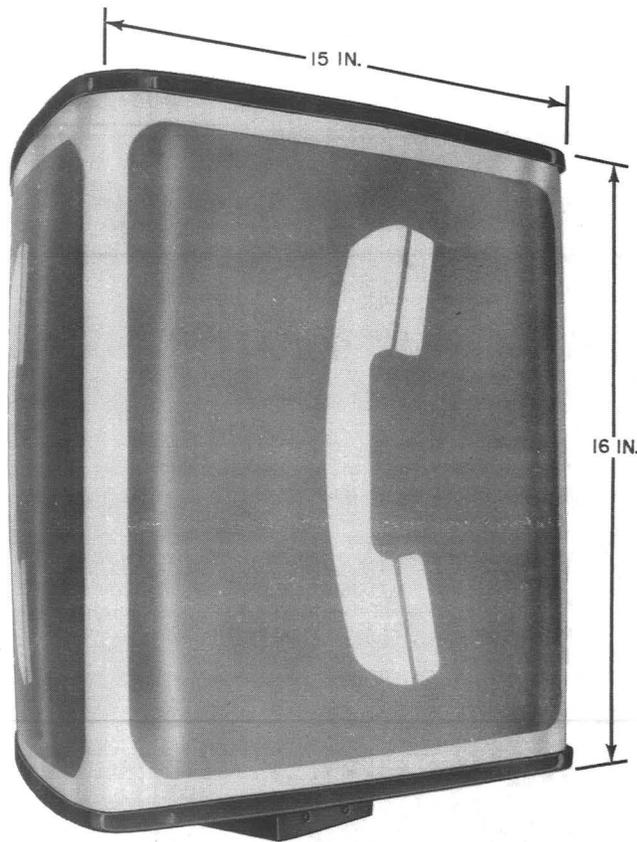
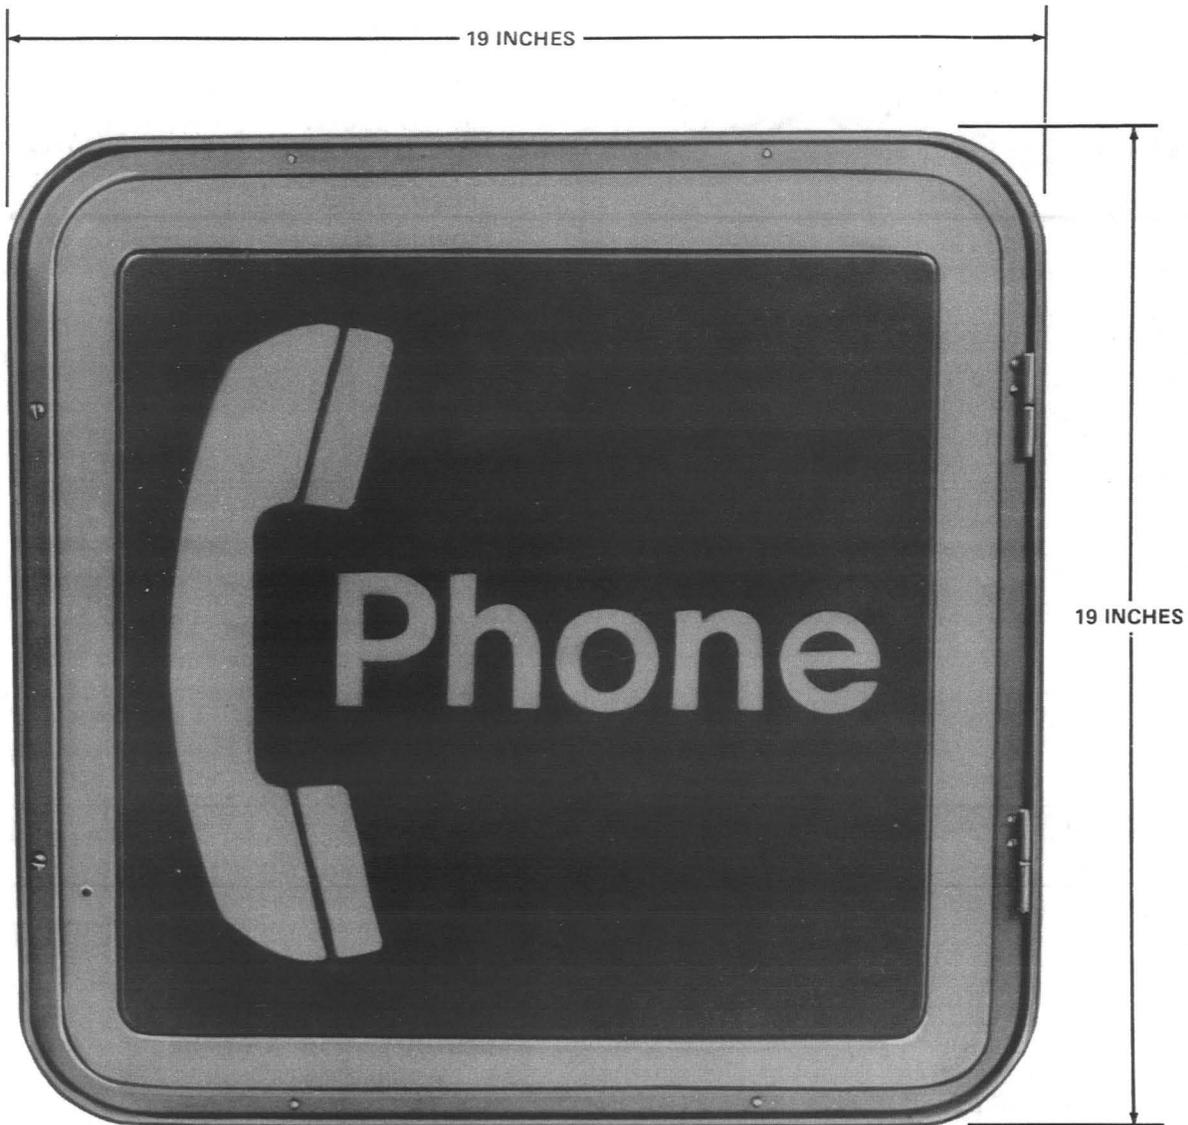

Fig. 10—KS-20031 Sign
Fig. 11—KS-20135, List 4 or List 5 Sign
2.13 The KS-22677, List 10 mast will accept a KS-20031, List 1 illuminated sign (Fig. 10) or a KS-20135, List 4 or List 5 illuminated sign (Fig. 11). The KS-22677, List 20 mast extension has no provisions for a sign.
- (2) Install the mast on the corral rail and secure it with the six 5/16-18 by 3/4 hex head screws and six 5/16-inch flat washers removed in Step (1).
3.18 The KS-22677, List 10 mast will accept a KS-20031, List 1 sign (Fig. 10) on top or a KS-20135, List 4 or List 5 sign (Fig. 11) on the side. The KS-22677, List 20 mast extension will not accept either. When the extension is used, the KS-20135 sign can still be installed on the List 10 mast. Refer to Section 508-810-202 for complete information on the signs.